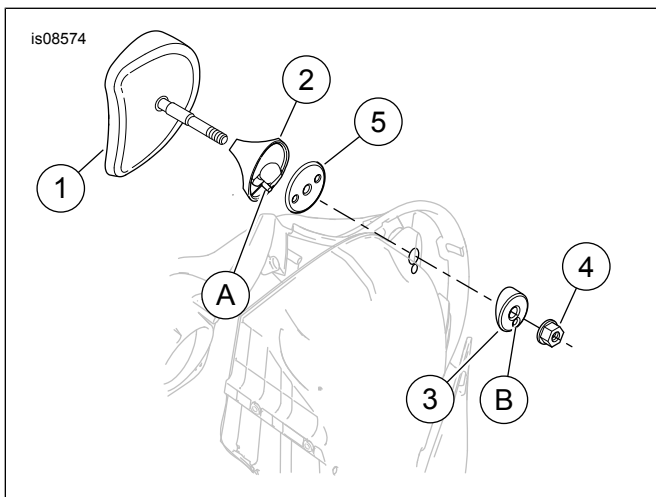

Figure 2. Service Parts: Fairing Mount Mirrors
See Figure 2 and Table 1.
4. See Figure 2. Install mirror assembly (1).
- a. With the locating pin (A) of the mirror assembly (1) inserting into the lower hole, install the mirror assembly.
- b. Install mirror base (2) and gasket (5).
- c. Install backplate (3) over mirror assembly, so that the locating pin is secured in the small hole of the backplate.
- d. Install flange nut (4). Tighten to 2.3–3.4 N·m (20–30 in-lbs).